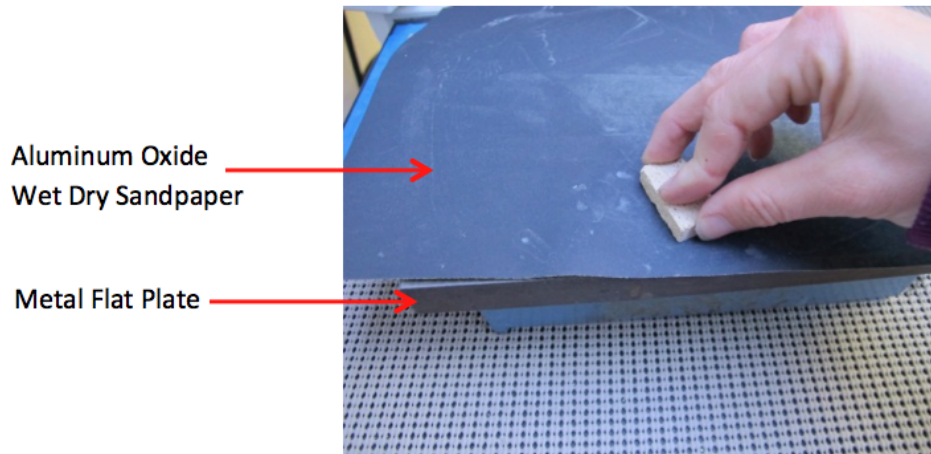

Figure 6
1. Use the metal flat plate and Aluminum oxide wet dry sandpaper (Fig. 6).
2. Hold the billet flat by applying equal pressure across the sample and move in a figure 8 motion on the paper (Fig. 6).